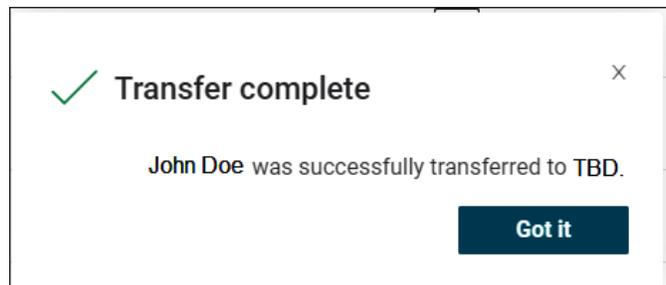

Figure 69. Transfer Status Confirmed
7. After transfer is complete, a pop-up window will indicate the user has been transferred to the new organization. See **Figure 69**.